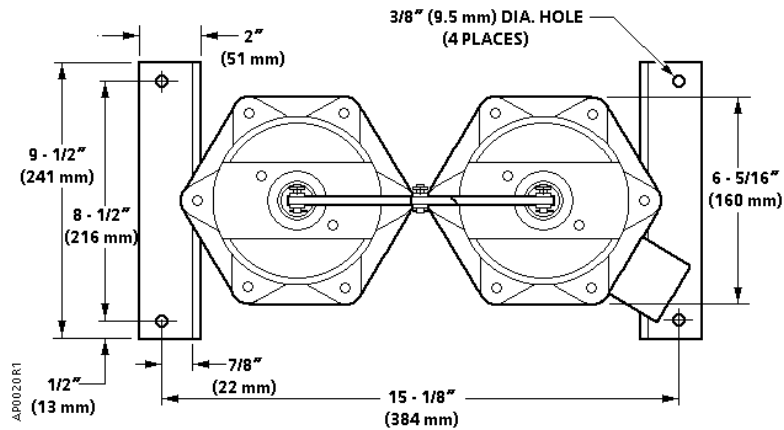

Figure 3. Damper or Inlet Vane Mounting Hole Locations (Top View).
3. Attach the angle iron frame of the actuator assembly to the mounting surface with appropriate fasteners. (See Figure 3.)